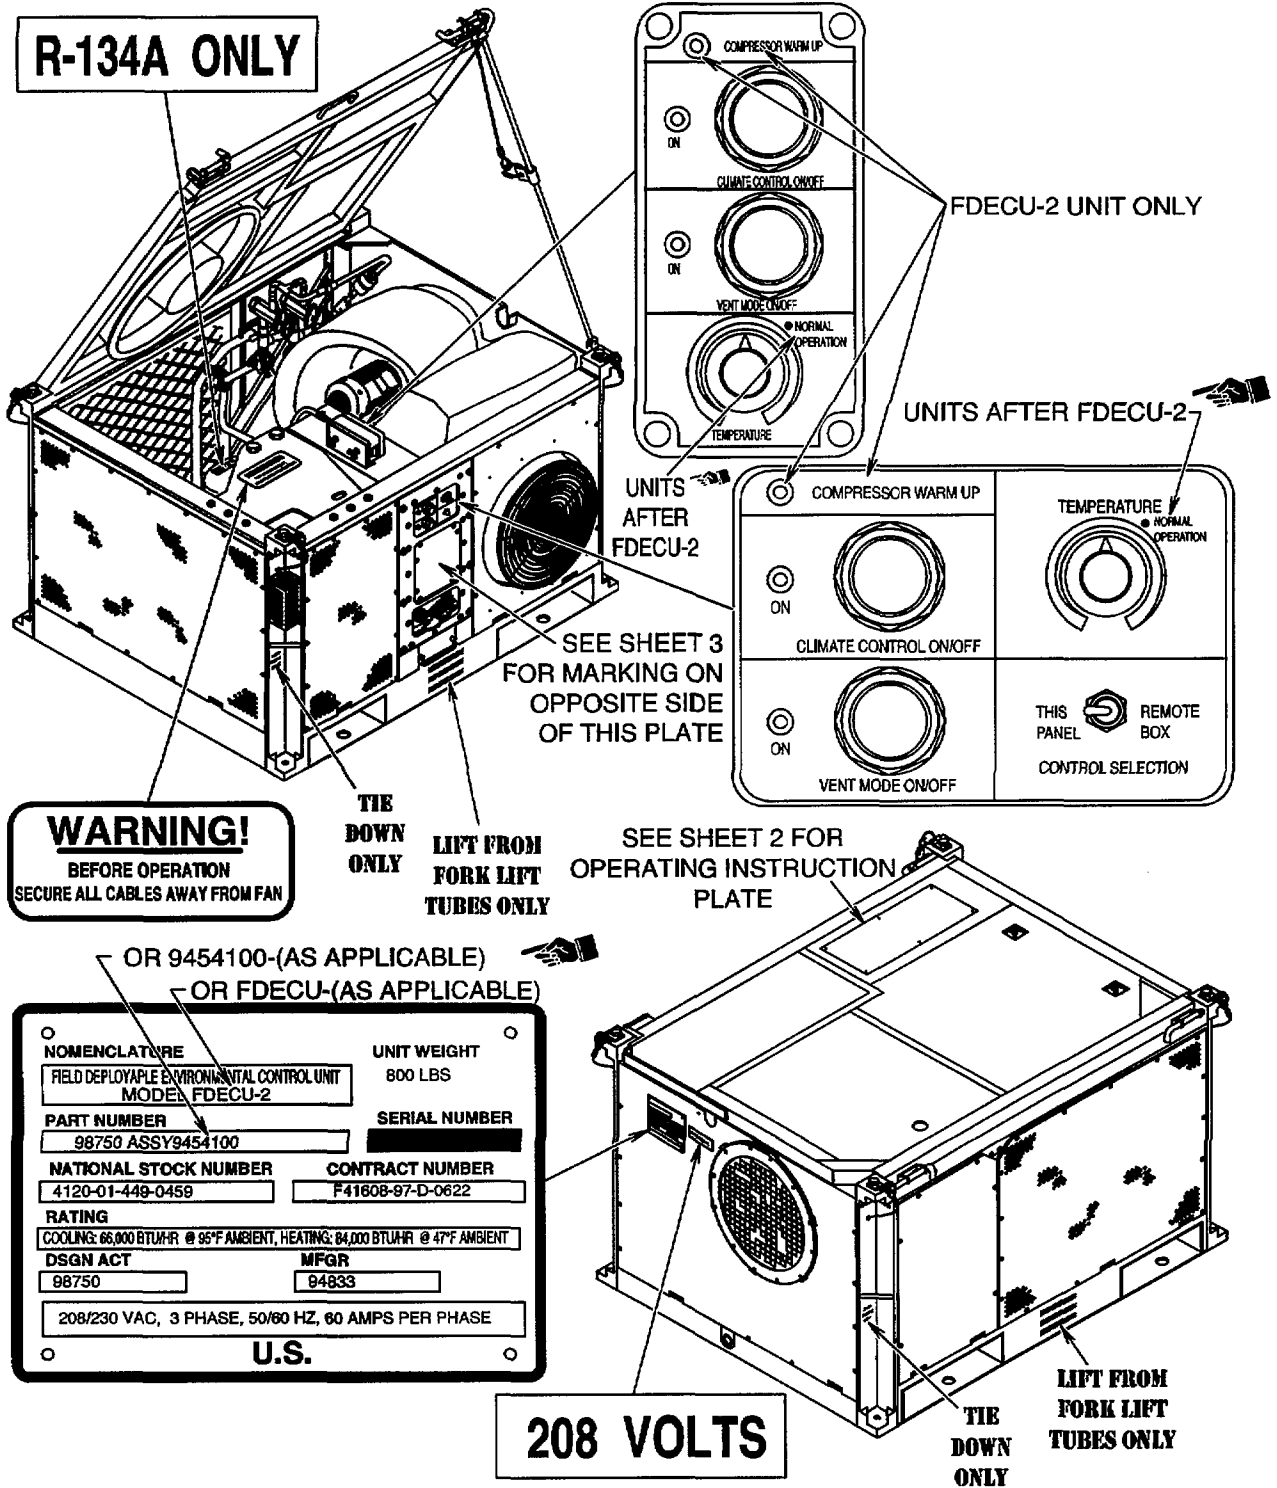

Figure 1-2. Identification Plates (Sheet 1 of 3).
1.11 **IDENTIFICATION PLATES.** Refer to figure 1-2.